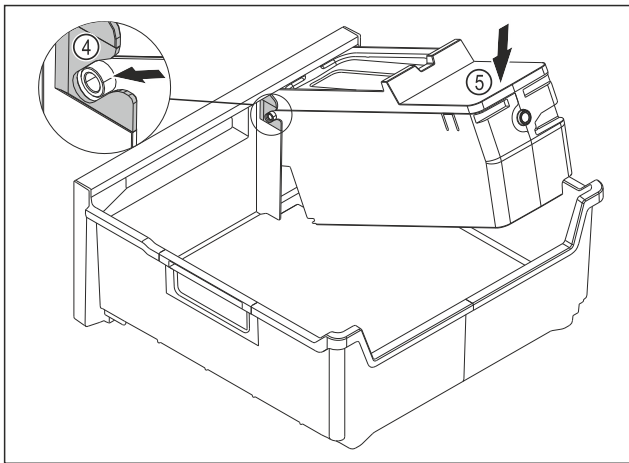

Fig. 80
- ▶ Installing the EasyTwist-Ice body: Push the axes for the EasyTwist-Ice body into the guides Fig. 80 (4).
- ▶ Press the EasyTwist-Ice body Fig. 80 (5) down at the back.